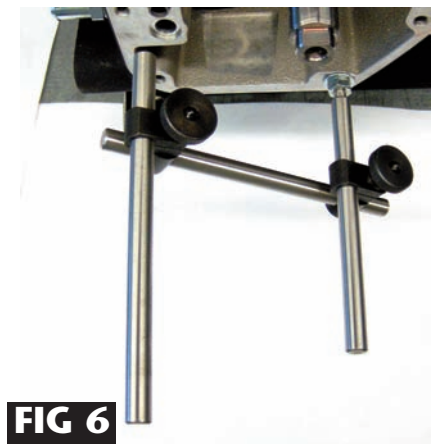

FIG 6
6. Place shaft No.940-1 (with the female threads up) into the open hole of the last installed swivel clamp mount. Snug wheel nut just enough to keep shaft from falling out and to hold the weight of the dial Indicator. **See Fig 6.**